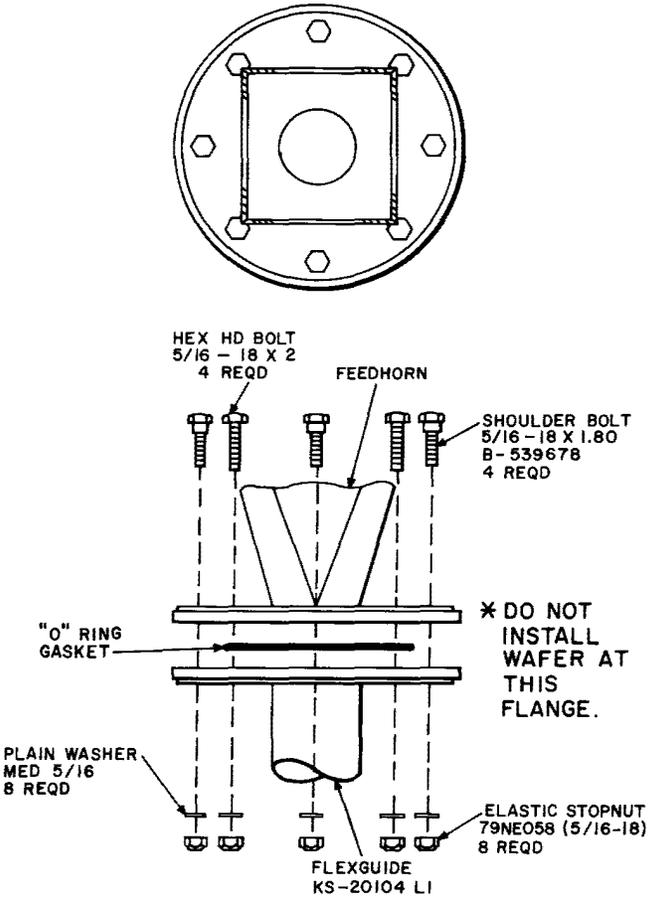

Fig. 13—Installation of Flexible Waveguide at Feedhorn
3.02 Using the hardware supplied with the waveguide, attach the flexible waveguide to the antenna feedhorn as shown in Fig. 13.
The shoulder bolts at this joint **must** enter from the top of the feedhorn flange as shown in Fig. 13. Use the AT-8390 waveguide alignment wrench to position the flanges properly before tightening the nuts at this joint.